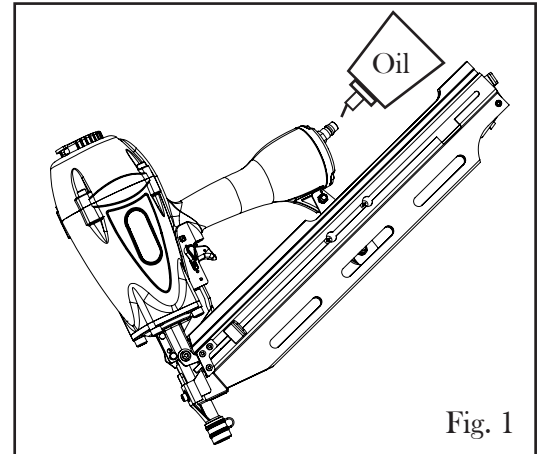

Fig. 1
### LUBRICATING THE TOOL (Fig. 1)
2. Turn the tool so the air inlet is facing up. Place 5 to 6 drops of resin-free 30W non-detergent air tool lubrication oil into the air inlet (Fig. 1). Excessive lubrication may damage the work surface. Wipe off any excess oil from the inlet.
The oiler should be located as close to the tool as possible, within 15 feet is ideal. If an in-line oiler is not available, place five or six drops of oil into the tool's air inlet and the beginning of each work day as shown in Fig. 1.